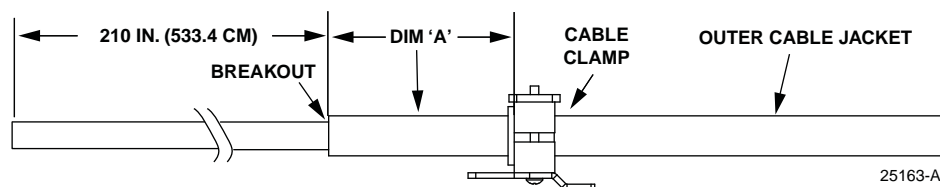

Figure 41. Splice Cable Clamp Position and Breakout
- c. If the cable being installed is designated for the splice chassis, obtain the appropriate DIM 'A' length from Table 5 based on where the cable clamp will be installed on the bracket, and measure an additional length of 210 in. (533.4 cm), as shown in Figure 41. This is where the cable clamp should be placed on the cable. For cable routing instructions, refer to NG4access ODF Platform Splice Chassis and Splice Tray User Manual (TECP-90-704).